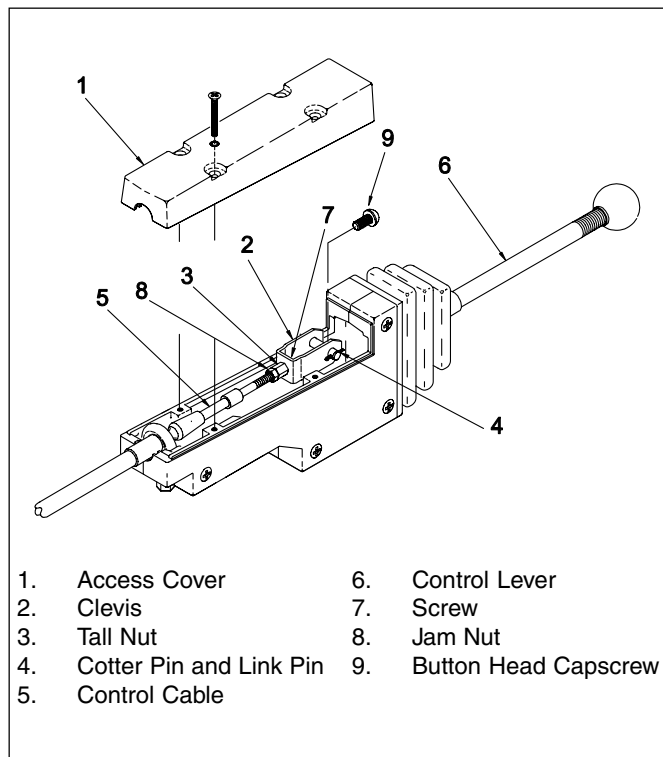

Figure 9 - Control Cable Adjustments
**B.** See Figure 9. Make sure the positions of the power control lever are the same as the position indicators on the decal. Remove the access cover (Item 1) on the housing to make adjustments. Loosen the jam nut (Item 8) that keeps the tall nut (Item 3) from turning and remove the button head capscrew (Item 9). Remove the cotter pin and link pin (Item 5) from the clevis (Item 2). Turn the tall nut and clevis to adjust the length of the control cable (Item 5). Use the link pin and cotter pin to connect the clevis to the control handle again and check the operation. When the adjustment is complete, install the access cover.